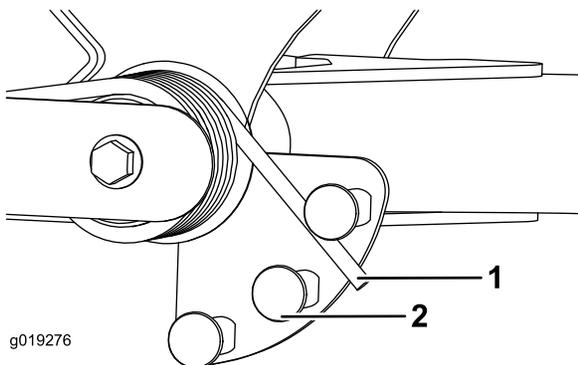

Figure 54
2. Insert a tube or similar object onto the long spring end and pivot it around the spring actuator to the desired position (Figure 54).